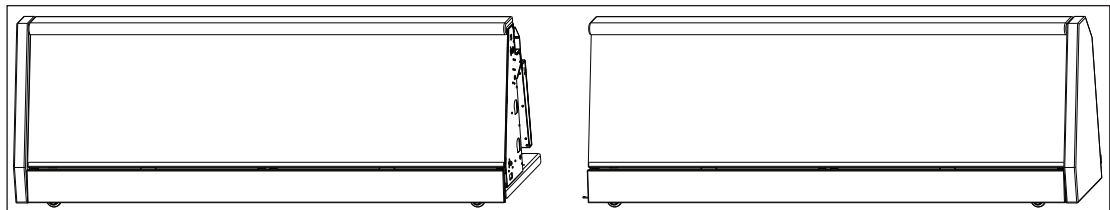

Figure 6: Positioning Sections Together
2. Position the two sections close together as shown in **Figure 6**.